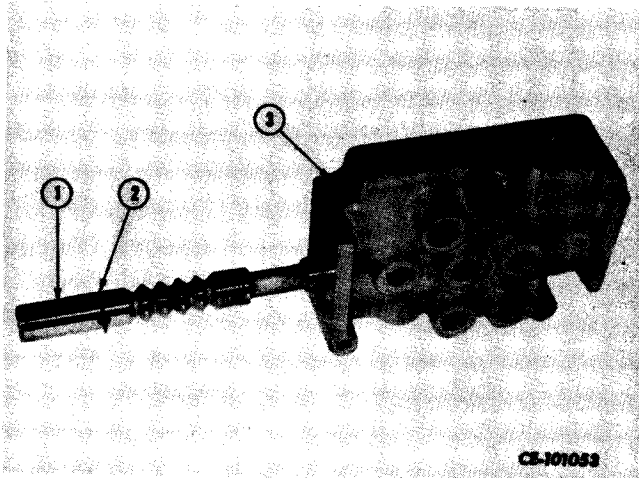

Figure 4-55
Remove end caps from ends of bottom spool (1, Fig. 4-55). Carefully slide spool out of valve body (3). Remove snap ring (2) from spool.
Install snap ring (2, Fig. 4-55) on bottom spool (1). Carefully slide spool, lubricated with clean transmission fluid, into valve body (3). Install end caps on both ends of spool and secure to valve body with socket head screws.